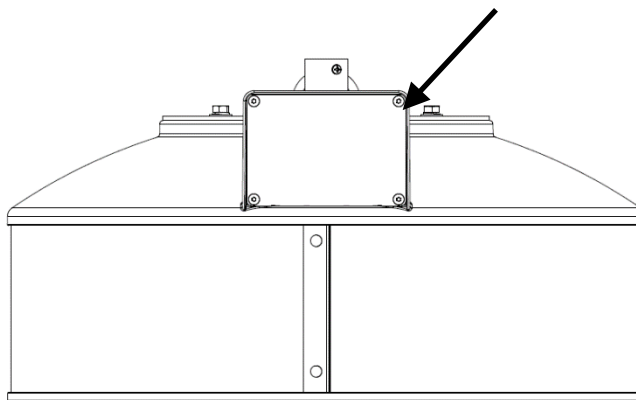

Figure 3: The cover plate for the electronics compartment
- 1) Change the power level by removing the 4 torx head screws (T-20) from the cover plate on the side of the unit as shown in Figure 3.